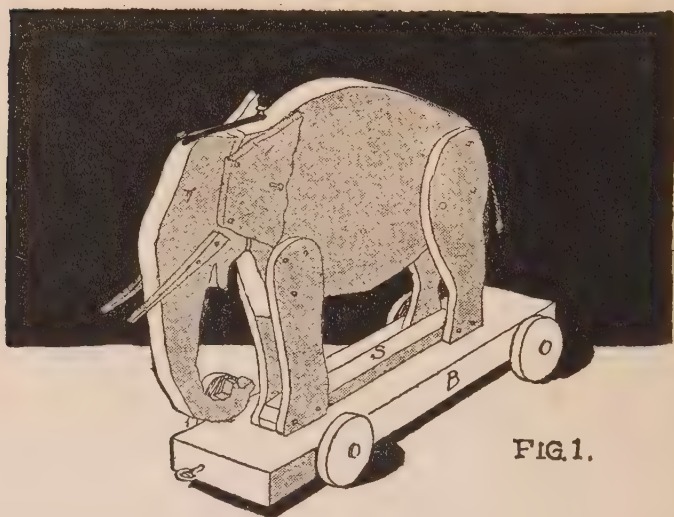

FIG. 1.
The front foot of each man has a round part below, about an inch and a half across. You can see this in *Figure 1*, which shows the
NO toy for a long while has enjoyed such continued popularity as the Teddy Bear. A toy of this kind which will climb a string all by itself merely by alternately pulling and releasing the string, as shown in *Figure 1*, can easily be made.
-FIG 1-
Now when you pull tight on the string, as shown in *Figure 1*, the chamois C and the lower outer roller r are in line. The pull on the cord tends to pull the two rollers r into line with C , but the string cramps on the rollers and will not slide, so that, as you pull, the chamois allows the string to slip through it, and the paws move up the string. This stretches the rubber R which has been fixed between the two nails T .
This spool is pivoted on nail bearings *n* in side pieces *t*, shown dotted in *Figure 1*, so that when the toy is drawn over the floor, the spool revolves. Fastened to the head piece, as at *m*,—driven into the rear end of it, in fact,—is a nail whose head rests in the slanting groove *N* in the spool *S*. The head part pivots at *b*, turning on a nail at this point, so that now you can understand the action.
Figure 1 just how this toy is made and just what kind of work you will have to do in making it.
ANY boy can make a submarine boat of small size which will go down to the bottom of the lake or river and then come up again of itself, as shown in *Figure 1*.
in *Figure 1*, strikes bottom, and thus pulls itself out of the notch in the top of the weight box *P*. When this trigger is released, the box is pivoted on its lower corner, and immediately the weight in the box upsets it and dumps all the stones out, as shown in *Figure 2*.